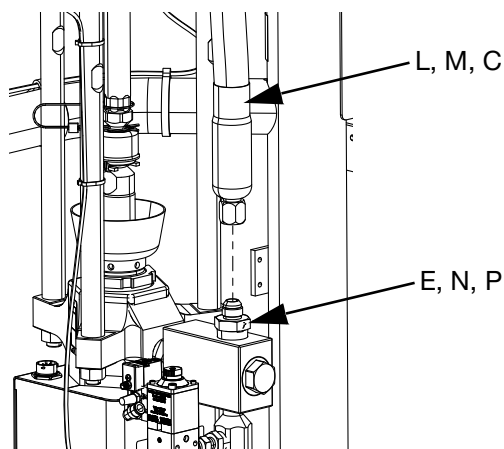

FIG. 19
4. If using a Single iQ Ram Supply System, connect Supply Hose 1 (C) to the Ram Supply System to Supply Hose 1 Fitting (E) as shown in FIG. 1 and FIG. 19.
- a. Connect Tandem Hose 1 (L) to the Ram Supply Unit 1 to Tandem Hose 1 Fitting (N) as shown in FIG. 2 and FIG. 19.
- b. Connect Tandem Hose 2 (M) to the Ram Supply Unit 2 to Tandem Hose 2 Fitting (P) as shown in FIG. 2 and FIG. 19.